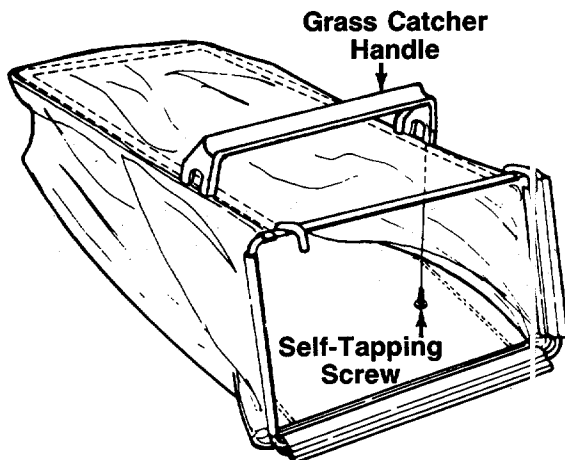

FIGURE 13.
4. Place the grass catcher handle in position on top of the grass bag and frame as shown in figure 13. Secure with four self-tapping screws.